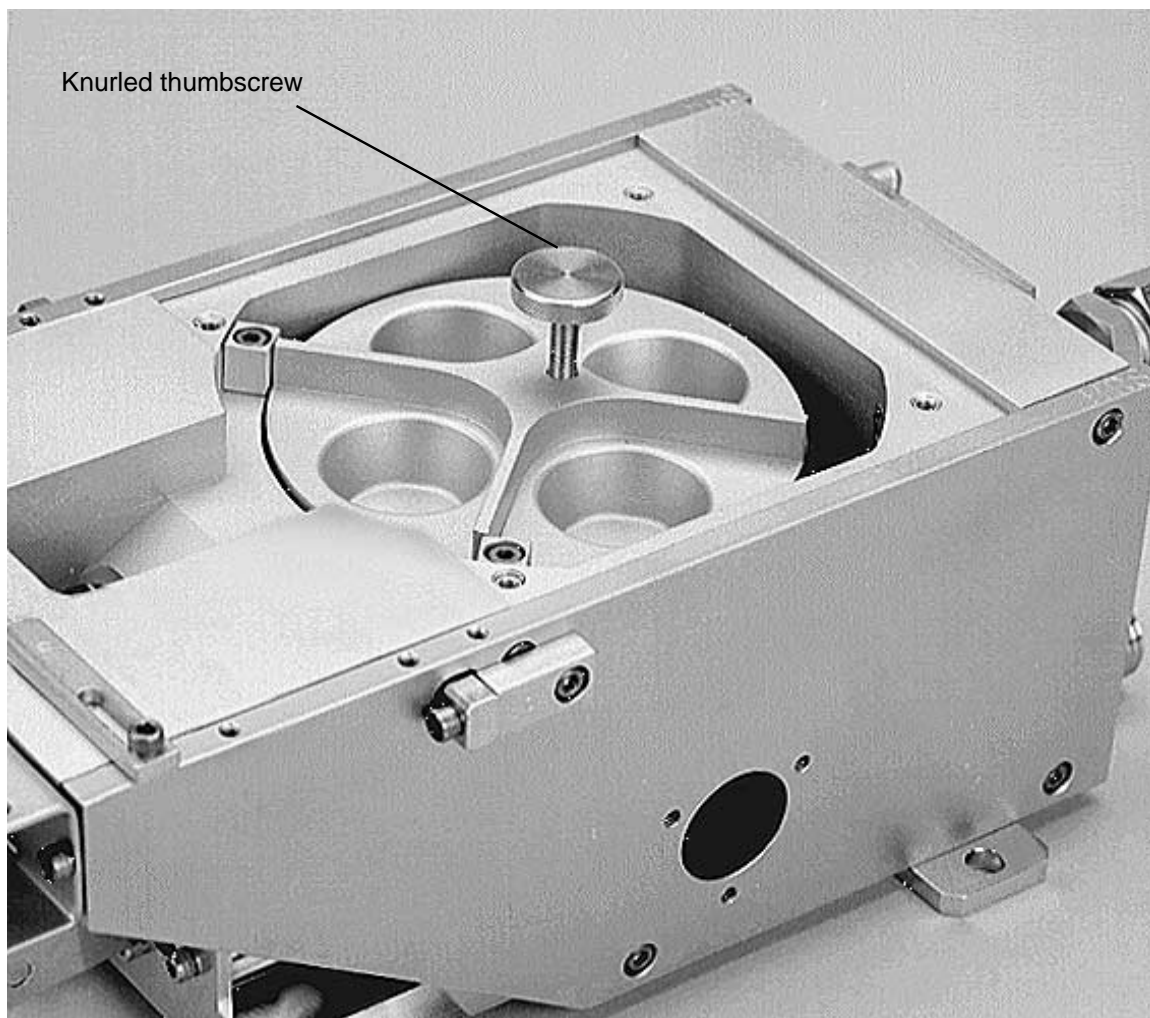

Figure 5-5. Source with crucible cover removed and knurled thumbscrew in place in top of crucible
Step 4: Screw the knurled thumbscrew into the tapped hole provided for it in the top of the crucible. Then rotate the crucible so that the off-center thumbscrew is toward the rear of the source (see Figure 5-5).